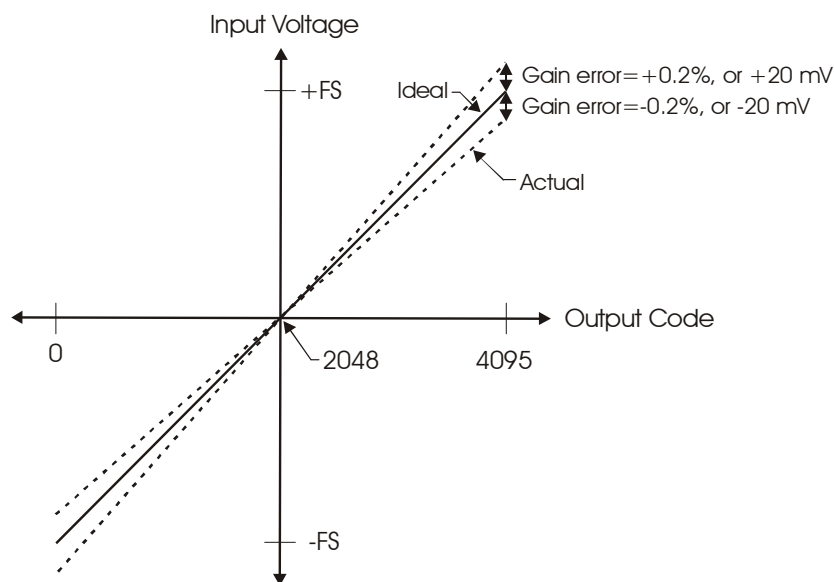

Figure 3-12. ADC Transfer function with gain error
Gain error is a change in the slope of the transfer function from the ideal, and is typically expressed as a percentage of full-scale. Figure 3-12 shows the USB-1208LS transfer function with gain error. Gain error is easily converted to voltage by multiplying the full-scale (FS) input by the error.
The accuracy plots in Figure 3-12 are drawn for clarity and are not drawn to scale.